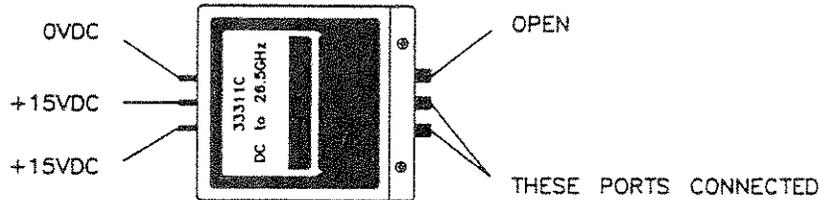

Figure 6-17. Switch Bias Voltages, Microwave Operation
**Microwave Operation.** The coax switch routes the source RF thru the HP 85105A and to the optional coax test set when HP-IB test set address 20 is selected on the HP 8510. At that time the bias voltages on the coax switch are as shown in Figure 6-17.